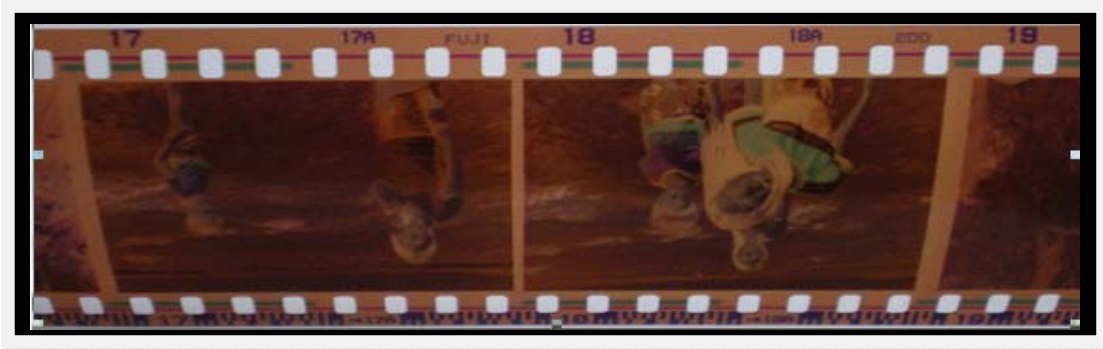

Figure 2
- ✧ If the image is upside down [see fig. 2] , the image can be corrected by continuously “Rotate” function in Image Scan Tool after capture [see fig. 3].